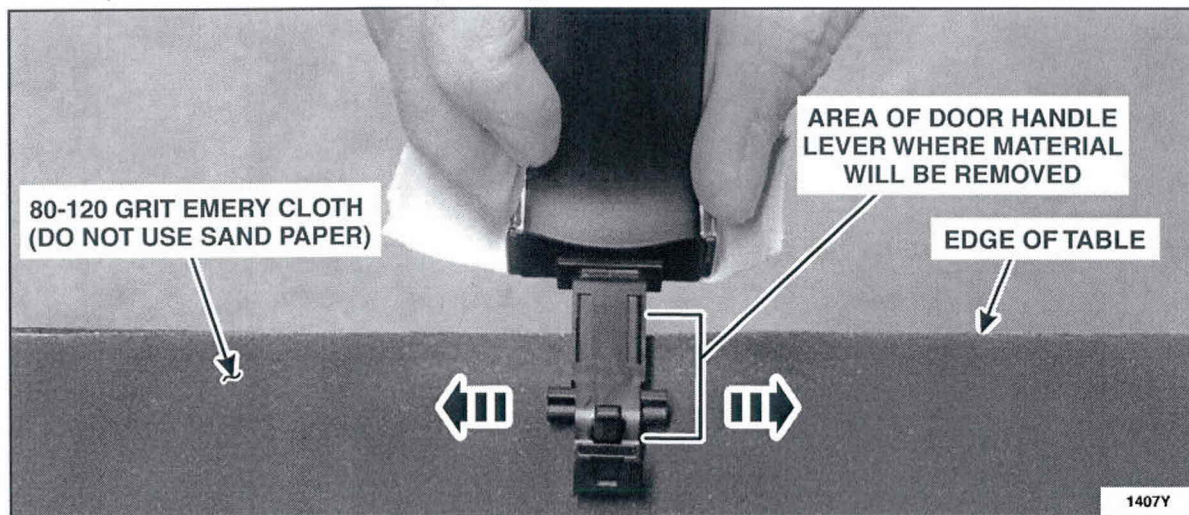

FIGURE 12
6. Place a sheet of 80-120 grit emery cloth on the edge of a table and place the door handle lever on top of it. (DO NOT USE SAND PAPER) See Figure 12.
7. Rub the handle back and forth across the emery cloth until 0.508 mm (0.020 in) of material is removed from the door handle. See Figures 12 and 13.